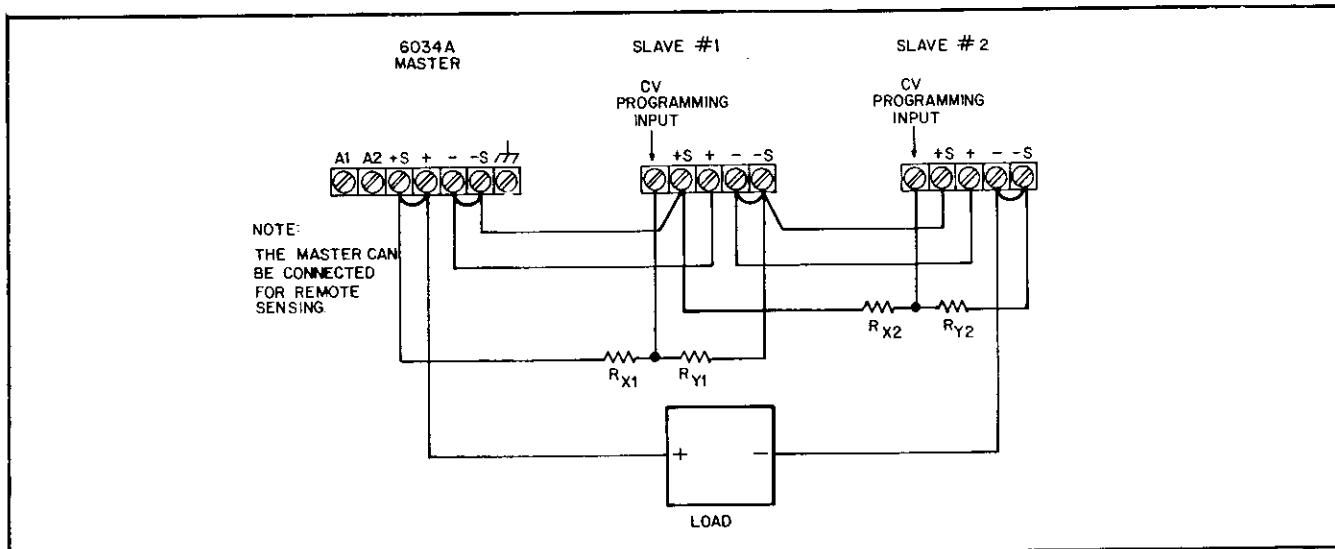
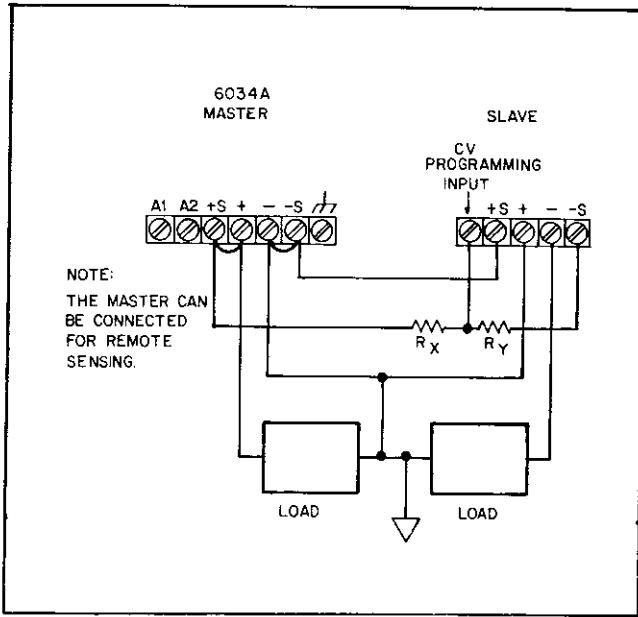

Figure 3-7. Auto-Series Operation
Figure 3-8. Auto-Series Operation, Positive and Negative Outputs
**3-41** Figures 3-7 and 3-8 show the interconnections required to operate two or more supplies in auto-series mode with a 6034A as the master supply. This mode of operation provides a greater voltage capability than can be obtained from a single supply. As many as four supplies can be connected in auto-series in the configuration shown in Figure 3-7, and as many as eight supplies can be connected if the power supply combination and load are center-tapped as in Figure 3-8 (with no more than four supplies on each side of the center tap). Either configuration allows all the supplies to be programmed simultaneously by the voltage and current settings of the master supply. Any power supply capable of auto-series operation can be used in the auto-series combination. The supply with the lowest current rating limits the maximum output current of the combination. The 6034A must be the master supply, and the master supply must be the one at the positive end of the series combination. Any point of the output can be grounded if desired, as long as no other point in the output is more than 240 volts (including output voltage) from ground.
3-43 In applications in which coordinated positive and negative voltages are required, center tapping the supply combination and load as shown in Figure 3-8 allows simultaneous proportional control of both supply voltages.